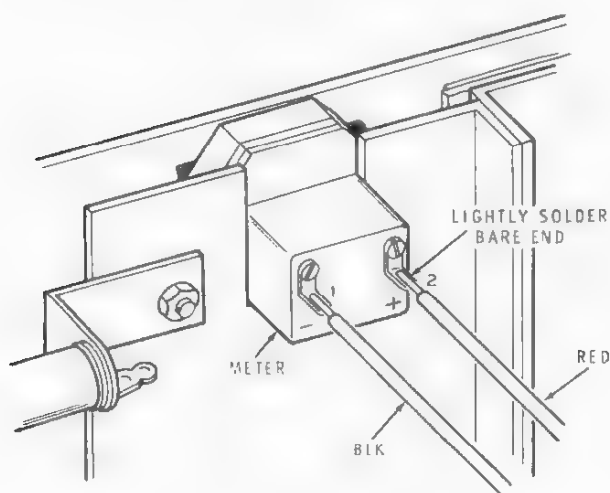

Figure 2-3
- () Refer to Figure 2-3 and tack solder one end of the prepared black wire to the negative (-) lug (lug 1) of the meter (S-1). Leave the other end of the wire free. This wire will be removed later.